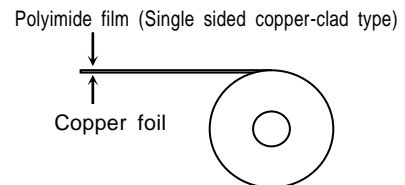

Figure 1
(1) The end of each CCL shall be attached with tape, to the core at three points (500-mm-wide products) or at one points (250-mm-wide products) in the center of the core.
(2) Each CCL shall be wound as shown in Figure 1.